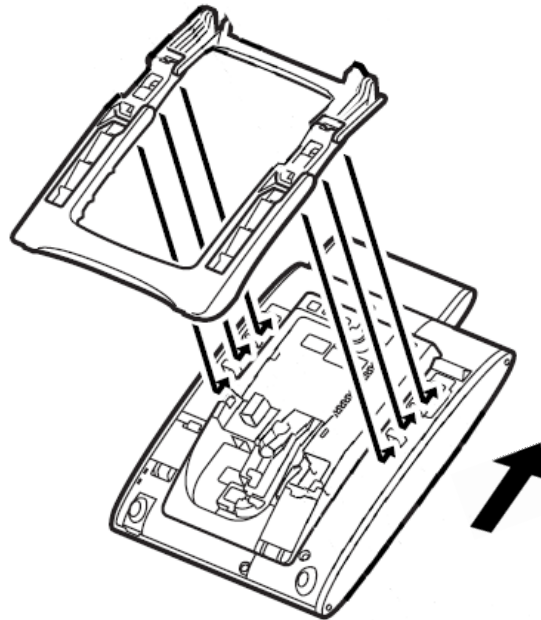

Figure 5-66 Attach Tilt Legs to Multiline Terminal
2. Lay the adjustable Tilt legs on top of the telephone. See Figure 5-66 Attach Tilt Legs to Multiline Terminal.